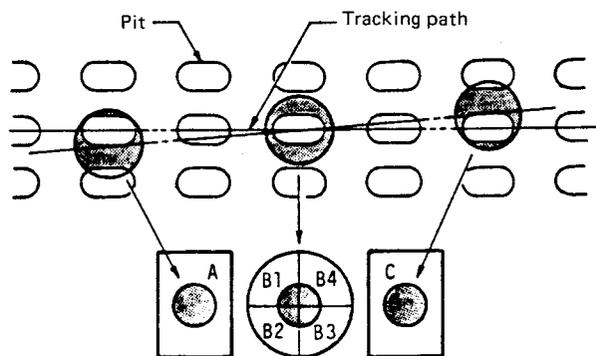

Fig.3-35 Detection of tracking error
The beam, which has been reduced to an extremely small spot by the objective lens, now strikes the disc side on which the signal is located. Part of the beam is then reflected back to the objective lens and photo diode. A diagram showing how this beam is reflected off the disc is shown in figure 3-35. (A) shows what happens when the concentrated beam is directed at a pit. Normally, this reflected light would disrupt the output light beam. In the laser diodes used in CD players, however, noise is reduced instead, resulting in stable performance. This property is very advantageous for the half prism which allows only half of the light energy to pass.